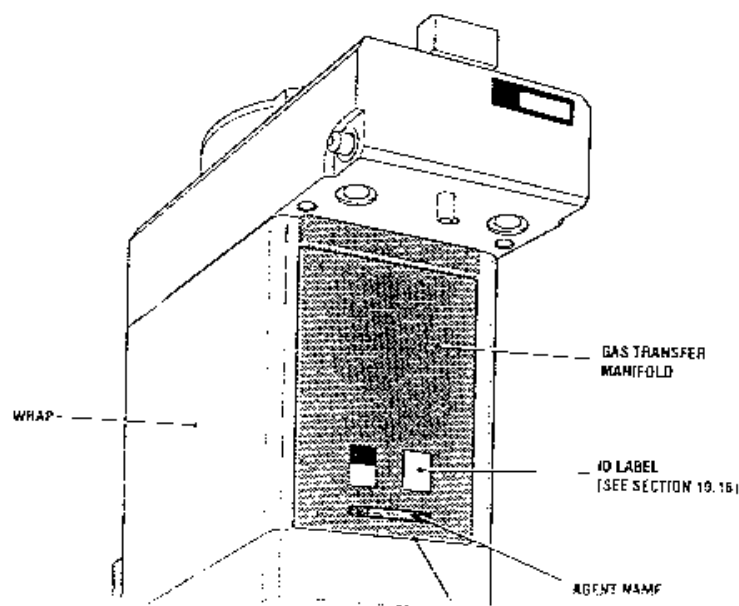

Fig. 9.1 Fitting The Vaporizer ID Label And The Wrap Label Strips
1. Fill the base cover securing screw heads, illustrated in Fig. 9.1, with anti-tamper compound (Shellac) Part No. 2802-8050-000.
2. Position the adhesive surface of the label squarely on to the transfer manifold, as illustrated in Fig. 9.1, ensuring that the following criteria are satisfied: